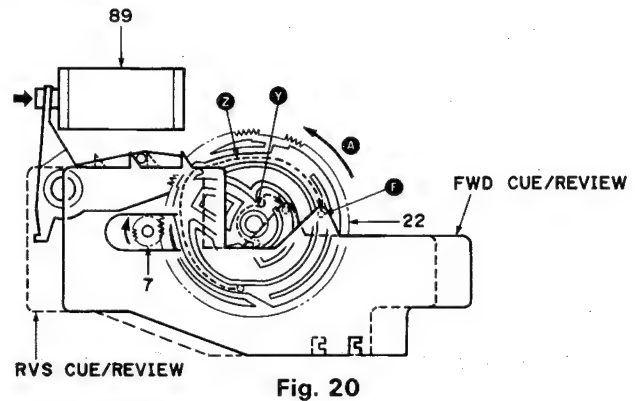

Fig. 20
- 6-4) In the transition from FWD PLAY to CUE/REVIEW, the pin ⑥ of the SLIDER passes through the FD GEAR orbit ② and moves to the CUE/REVIEW position of Fig. 20.
In the transition from RVS PLAY to CUE/REVIEW, the pin ⑥ of the SLIDER passes through the FD GEAR orbit ⑦ and moves to the CUE/REVIEW position of Fig. 20.
- 6-6) The SLIDER is held by the protrusion (E1) of the SLIDER and pin ③ of the FD ARM.